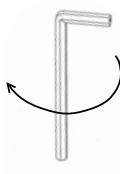

Fig.4
16) Using the Allen wrench as shown in Fig.4, rotate the screw clockwise until snug, do not overtighten.